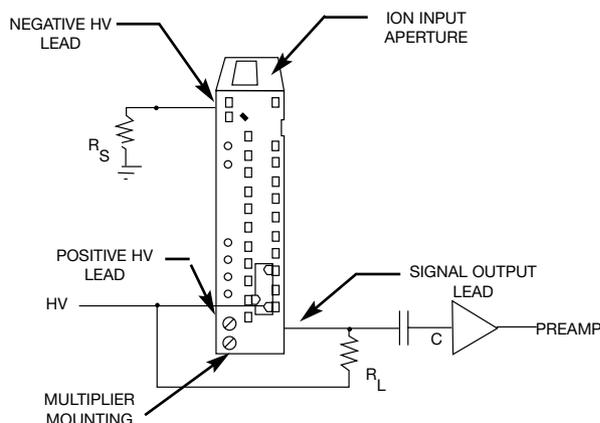

Figure 1. Electrical connections for negatively charged particle detection using an **14150IG** or **14151IG**
- In the case of the **14150IG** the +HV connection is made using the separate +HV lead provided. The multiplier mounting bracket is electrically isolated from the rest of the multiplier (refer **figure 1**).